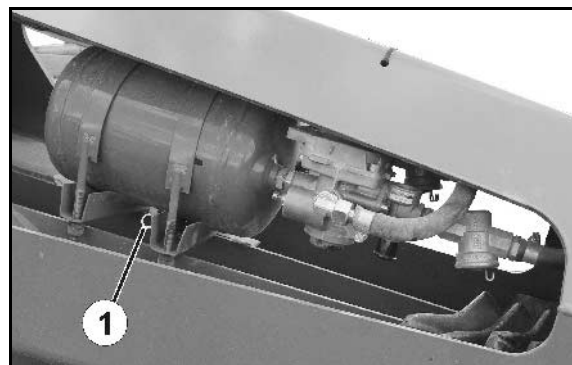

Fig. 72
1. Pull the drain valve (Fig. 72/1) in a sideways direction using the ring until no more water escapes from the air reservoir.